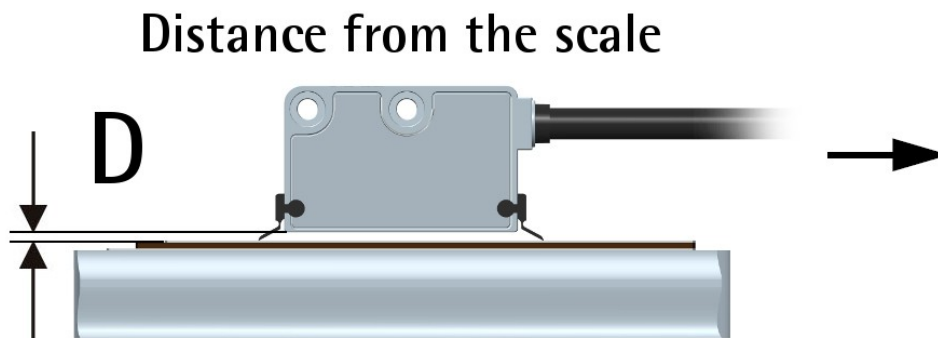

Figure 1 - Encoder / tape mounting gap
You can mount the readhead in both directions over the tape. The arrow in Figure 1 indicates the **standard counting direction** (the rising edge of A signal leads the rising edge of B signal) when the sensor moves in the direction indicated by the arrow; further information in the "4.7 Counting direction" section on page 19.
**The distance D (see Figure 1) between the bottom of the encoder and the MT50 magnetic scale must be as follows:**
The positive counting direction (the rising edge of A signal leads the rising edge of B signal) is achieved when the sensor moves on the tape according to the arrow shown in Figure 1. For further information see the "4.7 Counting direction" section on page 19.
### 3.7 Optional cleaning wipers (Figure 1)